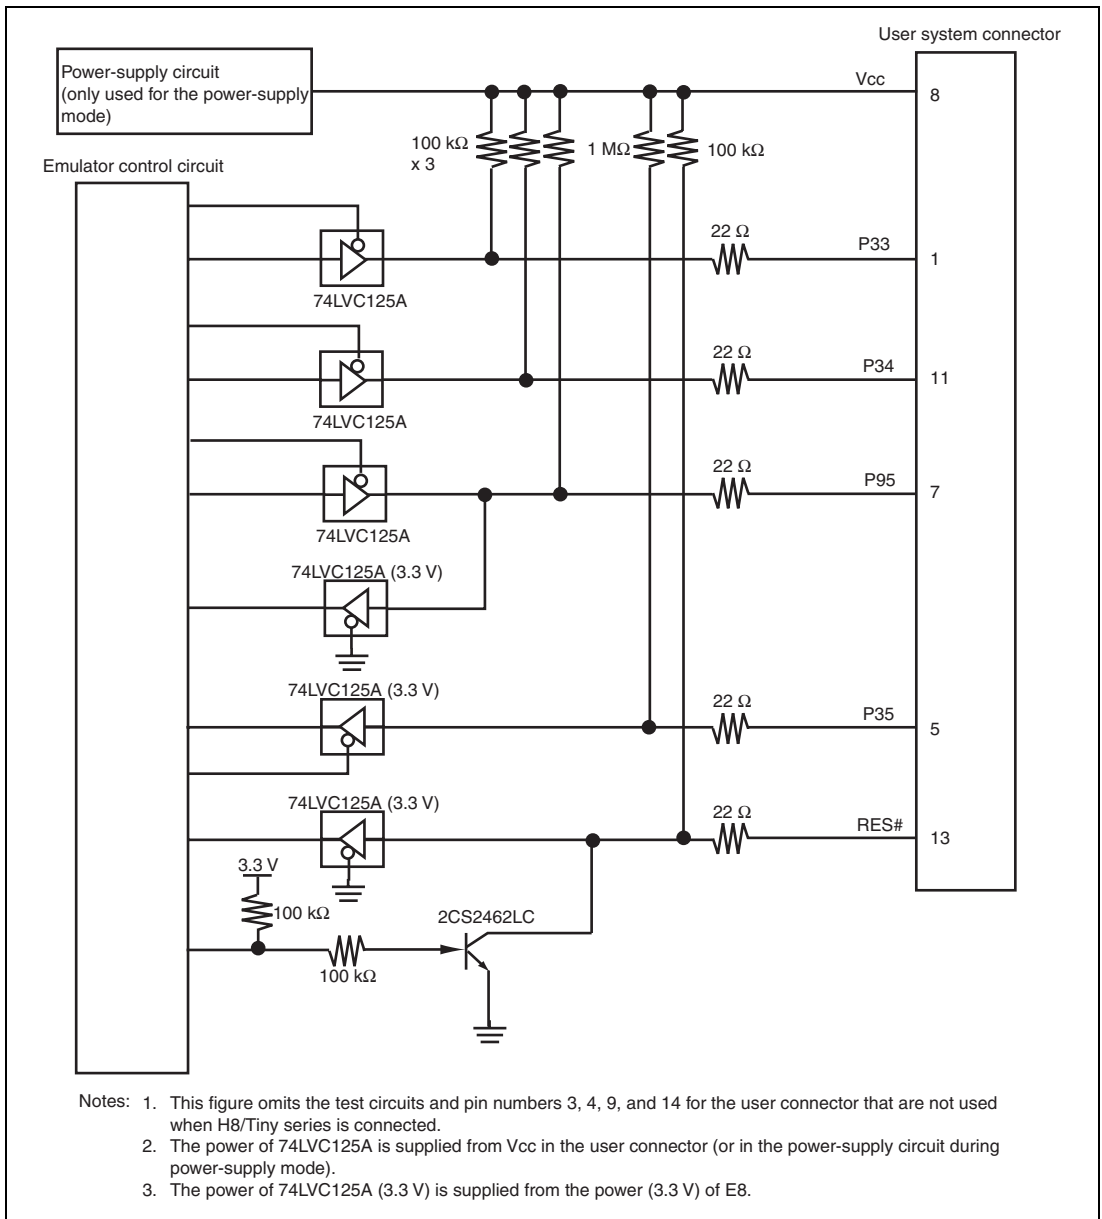

Figure 4.6 Interface Circuit in the E8 Emulator (Reference)
8. Figures 4.6 and 4.7 show the interface circuit in the E8 and E8a emulators, respectively. Use these figures as references when determining the pull-up resistance value.